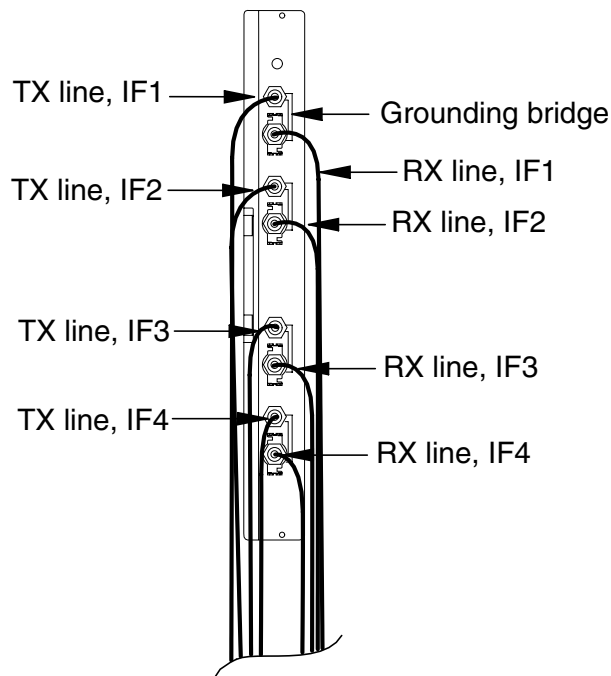

Figure 21. Cabling of the FXC E1 transmission unit
The FXC E1 has four pairs of 75 Ω connectors (type BT-43). Each pair forms a transmission interface (IF). The upper connector is always the TX connector of any given transmission interface. The lower connector is always the RX connector of any given transmission interface (see Figure 21).
The 75 Ω TX and RX connectors are connected to each other with a grounding bridge (see Figure 21). If the grounding bridge is removed, the grounding of the RX connector's outer conduct changes from direct grounding to capacitive grounding.
1. If you want to remove the grounding bridge (see Figure 21), use a 10 mm hexagon socket to loosen both connectors and pull out the bridge. Retighten the connectors.
2. Connect the connector of the received (RX) signal line to the 75  $\Omega$  RX connector on IF1.
3. Connect the connector of the transmitted (TX) signal line to the 75  $\Omega$  TX connector on IF1.
4. Cable the other IFs in the same manner (see Figure 21).